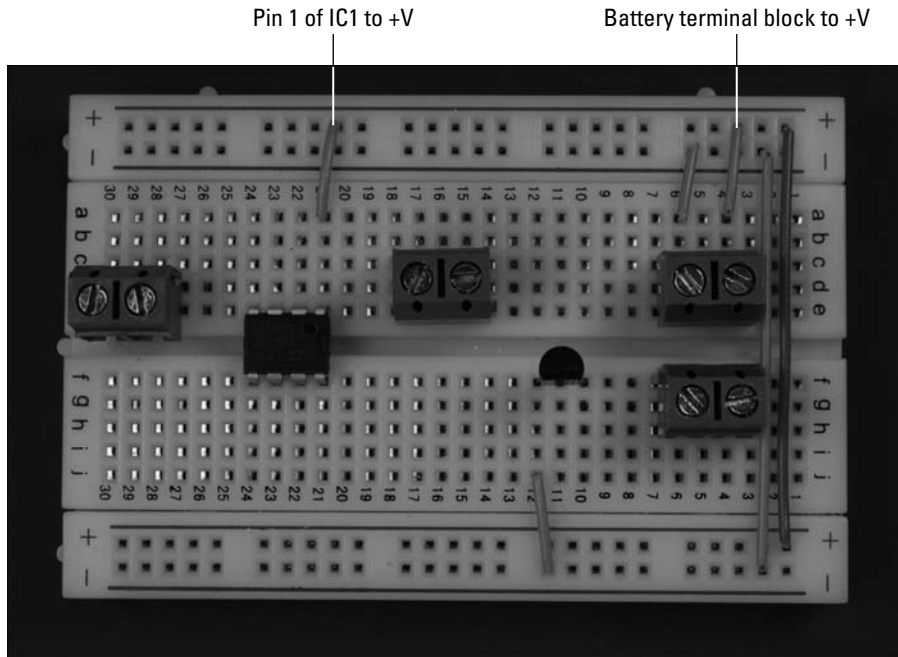

Figure 12-7:
3. Insert wires to connect IC1 and the battery terminal block to the +V bus. Then insert a wire between the two +V buses to connect them, as shown in Figure 12-7.